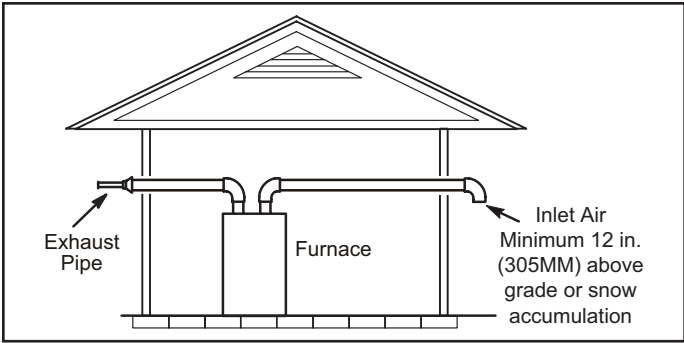
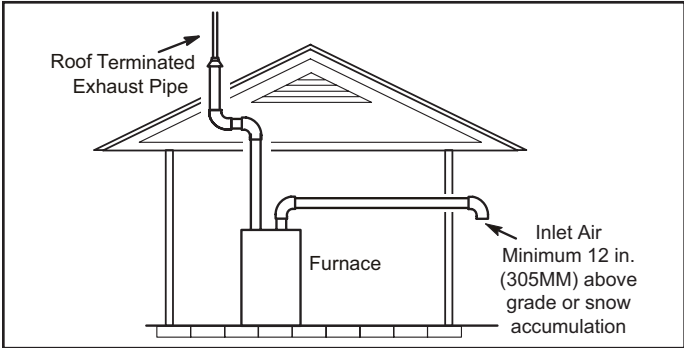

Figure 31. Exiting Exhaust and Intake Vent
Figure 32. Exiting Exhaust and Intake Vent
- 1. Intake and exhaust terminations are not required to be in the same pressure zone. You may exit the intake on one side of the structure and the exhaust on another side (Figure 31). You may exit the exhaust out the roof and the intake out the side of the structure (Figure 32).